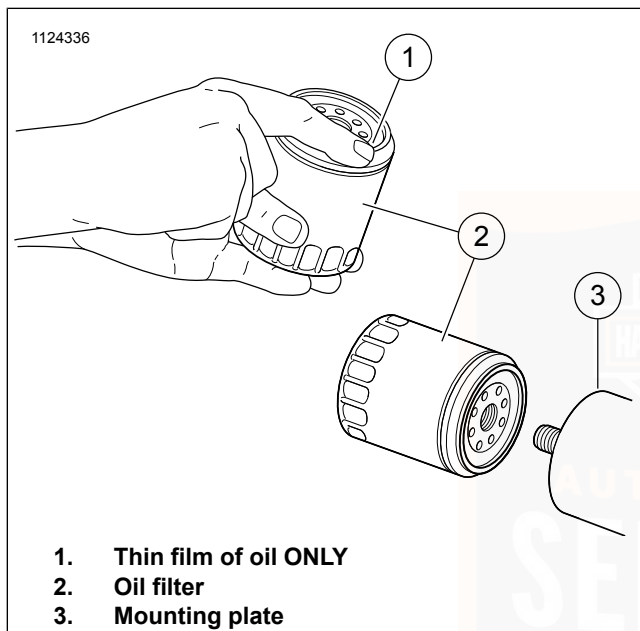

Figure 53. Applying Thin Oil Film
7. See Figure 53. Install **new** oil filter.